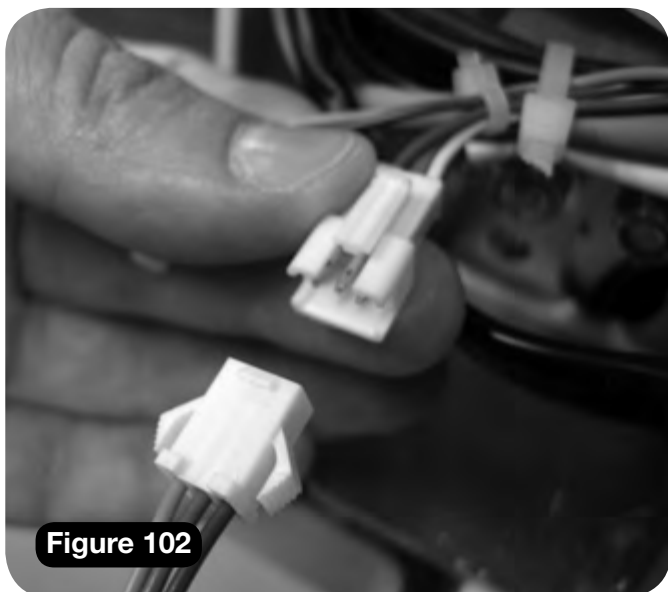

Figure 102
- e Connect the toggle loom (orange, blue and green) (**Figure 102**).